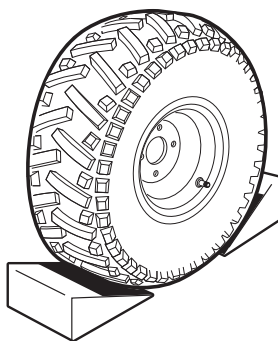

Fig. 2 Wheel Chocks
1. Put the wheel chocks in front of each front wheel and behind each front wheel (Ref. Fig. 2).
1. Put the wheel chocks in front of each rear wheel and behind each rear wheel (Ref. Fig. 2).